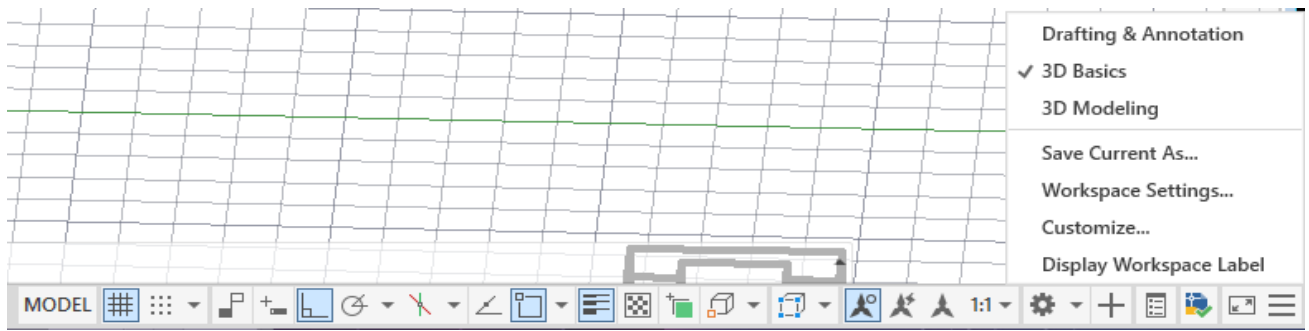

Figure 6.1 – Switch to 3D Basics
6.2.1 Before starting work, you need to enable such modes as "Ortho", "Object Snap", "Line Thickness". And also in the tab "Switching workspace" or "Workspace Switching" select the mode "3D Basics" or "3D Basics" (figure 6.1).